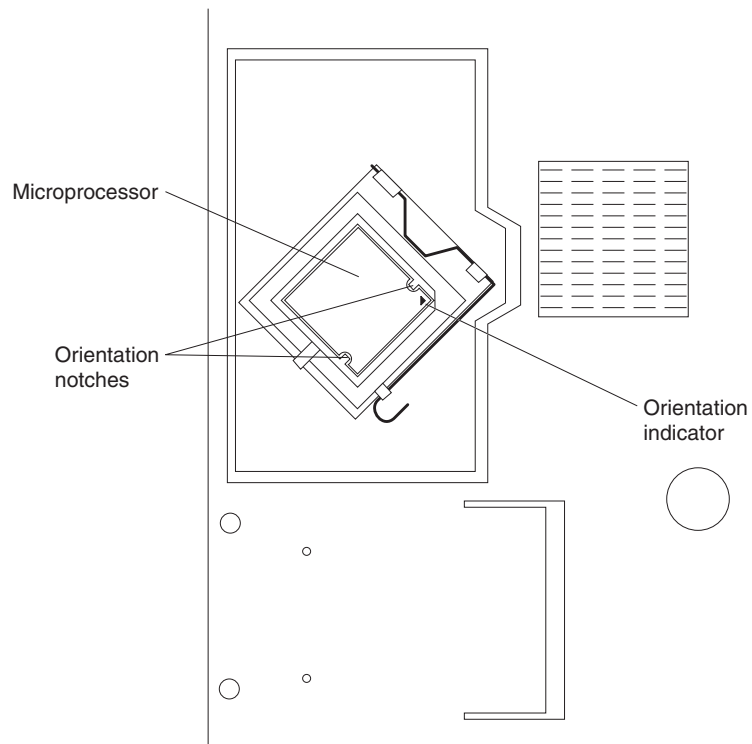

Figure 49. Microprocessor orientation
**Note:** To maintain proper orientation between the microprocessor and the microprocessor socket during installation, observe the following information (see Figure 49 on page 116):